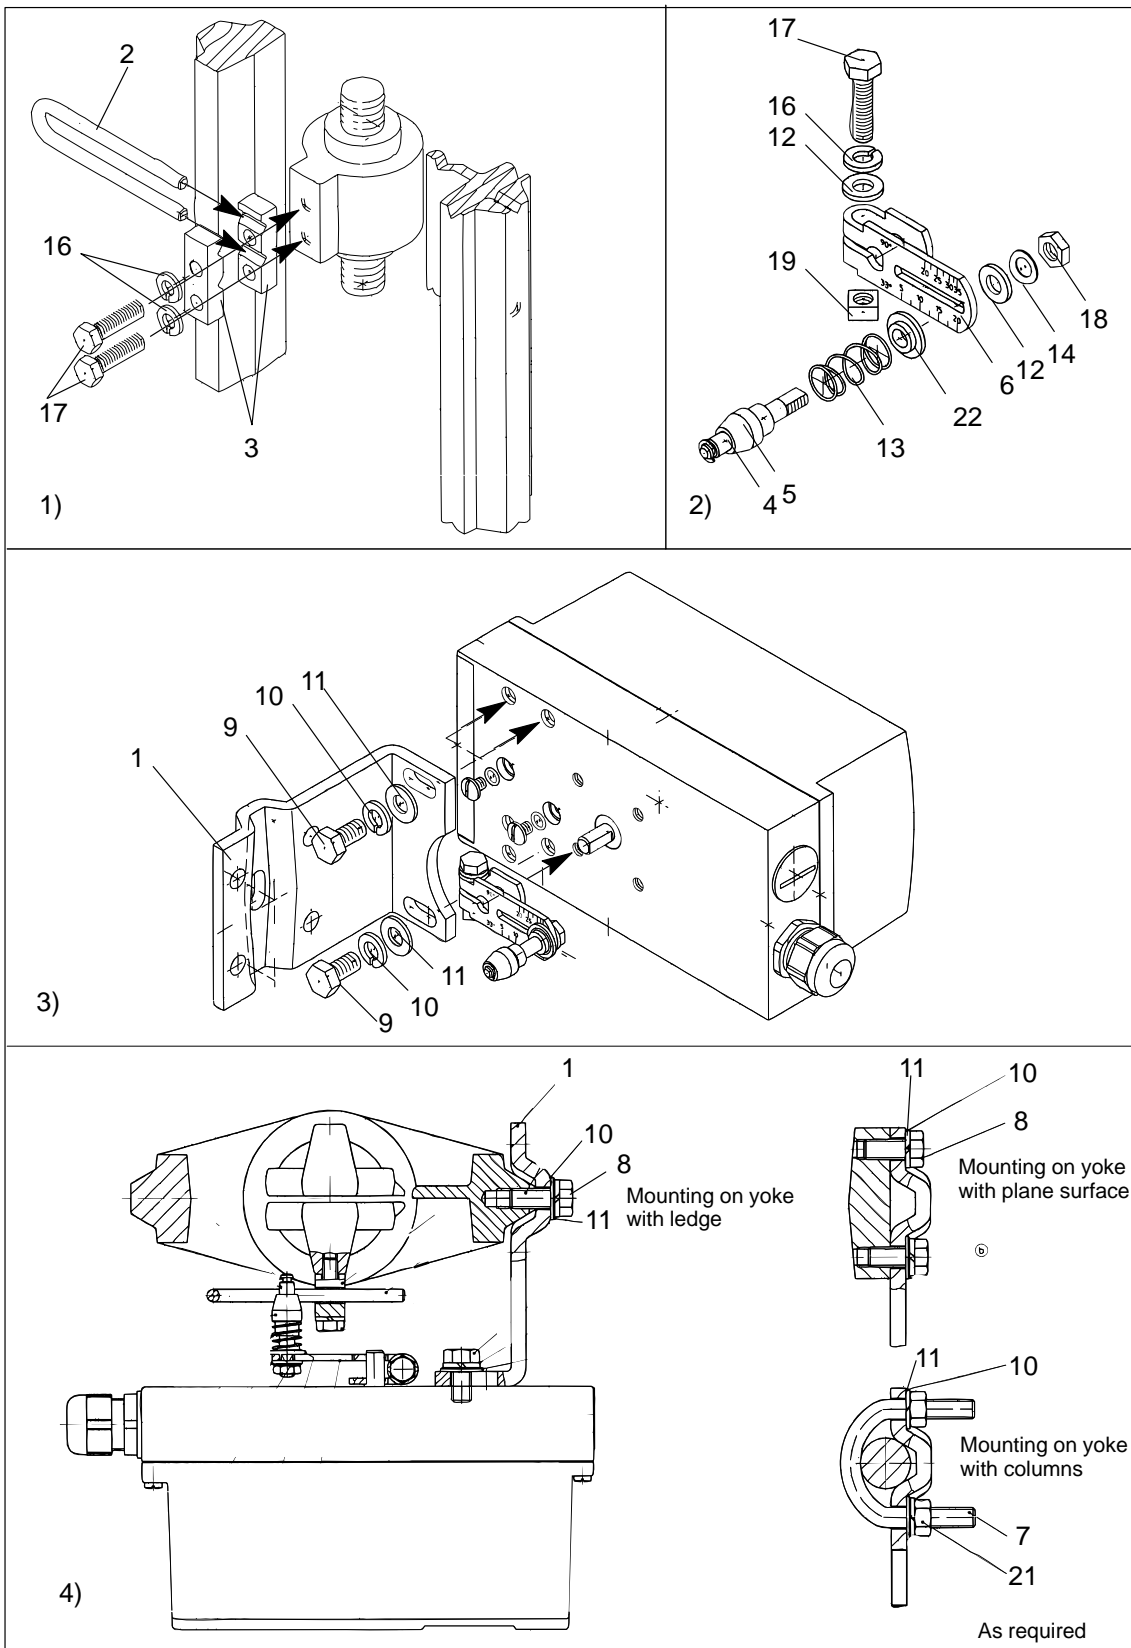

Fig. 3-5 Assembly sequence (linear actuator)
The following are included in the *supply of the mounting kit* “Linear actuator IEC 534 (3 to 35 mm)” (see Fig. 3-5 for item Nos.):
3.3.2 Assembly Sequence (see Fig. 3-5)